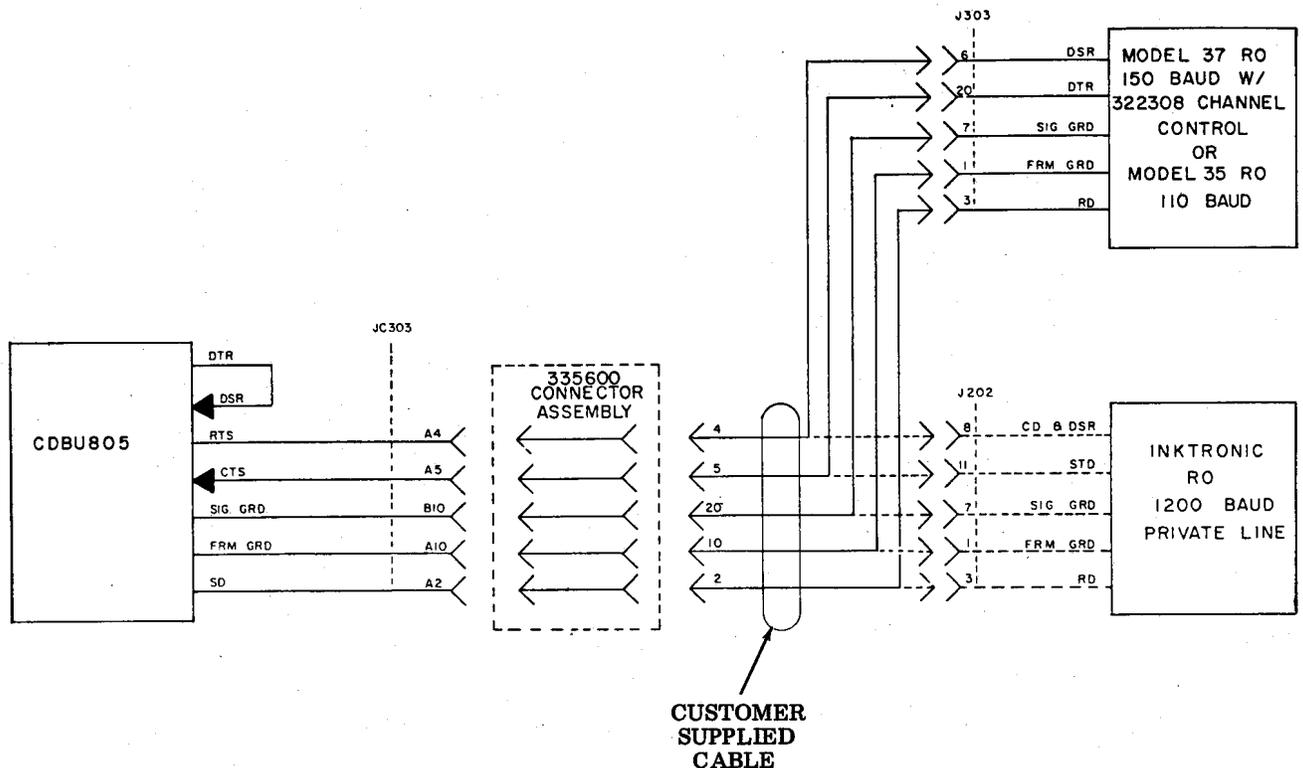

Figure 3 - Customer Wired Cable to Model 35, 37, or DATASPEED INKTRONIC Teletypewriter
the equipment arrangement shown in Figure 3, a data set is not used between the buffer module and RO device. Therefore, options 4 and 5 (6.09 and 6.15) listed in the buffer module option table consist of wire straps that bypass data set controls and provide for operation of the device either with or without motor controls.
6.20 For installing customer cabling (50 feet maximum for EIA signals) to the teletypewriter and the buffer module, refer to Figure 3 in this section and 8356 wiring diagram that is supplied with the teletypewriter.
6.22 The INKTRONIC printer used as an RO device can be wired to the buffer module as shown in Figure 3 using customer cabling and the TP335600 connector assembly furnished with the buffer module.
6.26 Interconnection of the RO (receive-only) device to the JC303 connector on the buffer module is accomplished using customer provided cabling and a TP335600 connector assembly supplied with the module. Signaling to the RO device is according to Electronics Industries Association (EIA) Standard RS-232-C; therefore, interconnecting cable length should not exceed fifty feet in length. Figure 3 provides a schematic wiring diagram for connecting the customer supplied cable.